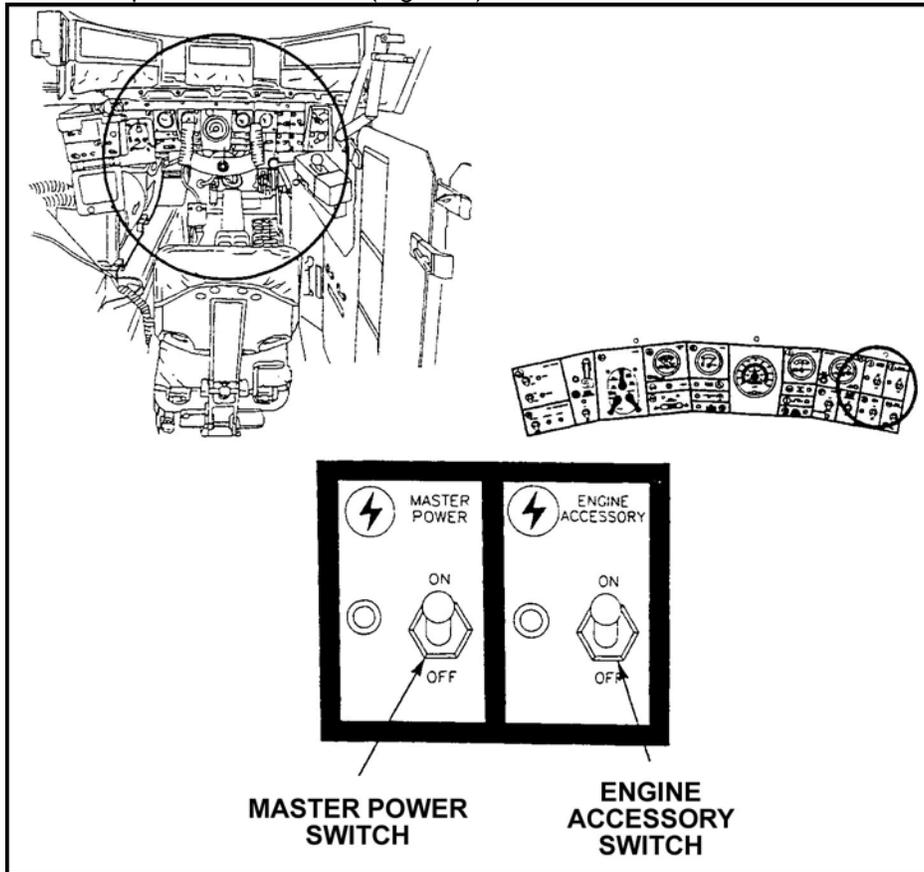

Figure 3. Master power and engine accessory switch.
- (2) Put on CVC helmet.
c. Move master power switch to ON (Figure 3).